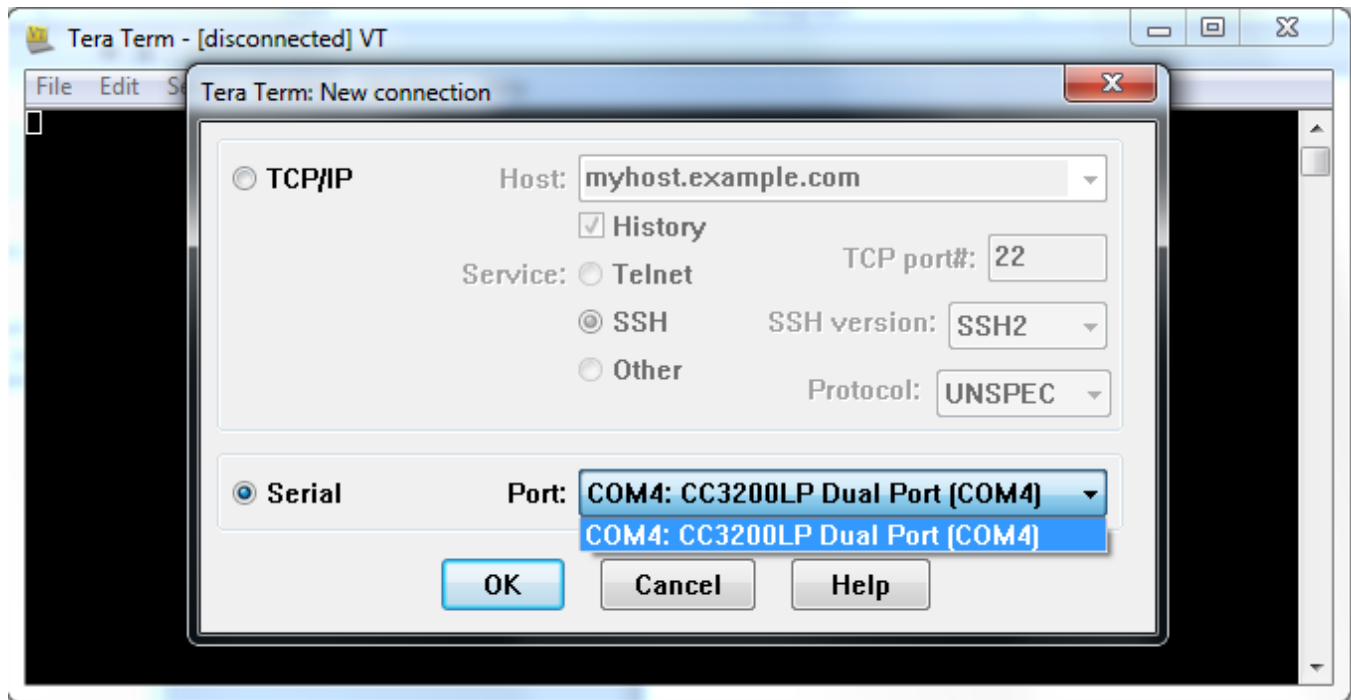

Figure 22. Launch Tera Term
7. Launch Tera Term, and create a new serial connection to the CC3200 Launchpad COM port as shown in Figure 22.